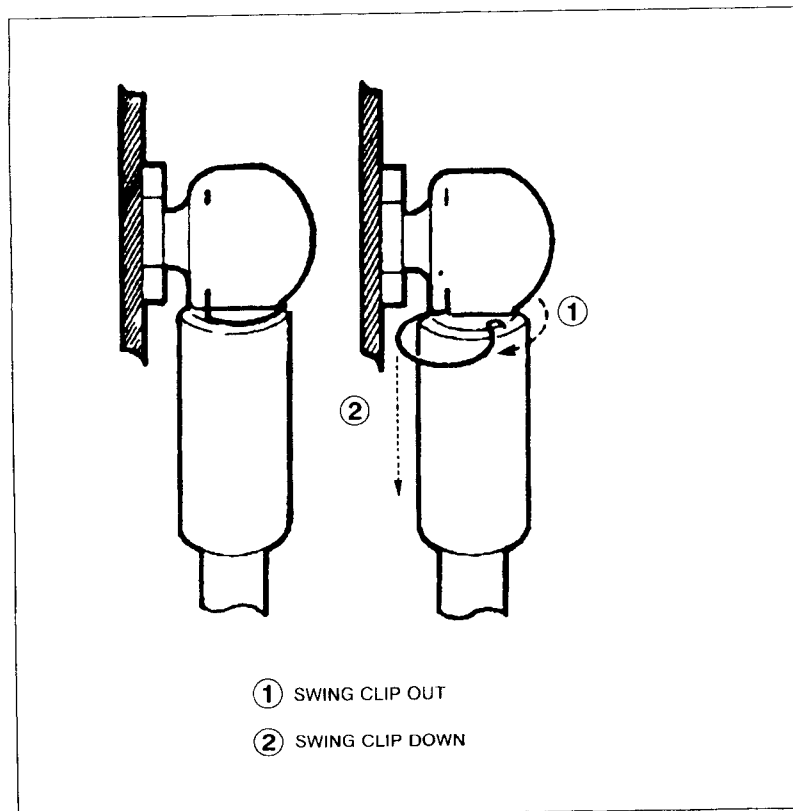

Figure 6-43. Gas Spring Safety Clips
- e. Remove the safety clips from one of the gas springs (see Figure 6-43).
- g. Remove both safety clips from the one gas spring (see Figure 6-43).